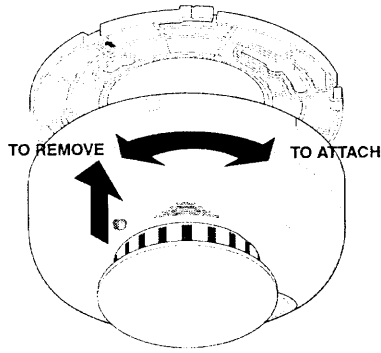

Figure 3.
1. Remove the smoke detector from its mounting plate by twisting the detector counterclockwise. See Figure 3.
Line up the raised tab on the detector with the left side of the slot on the mounting base. See Figure 3. Push the detector up against the base and rotate detector clockwise approximately 15 degrees. To detach the detector, turn counterclockwise.